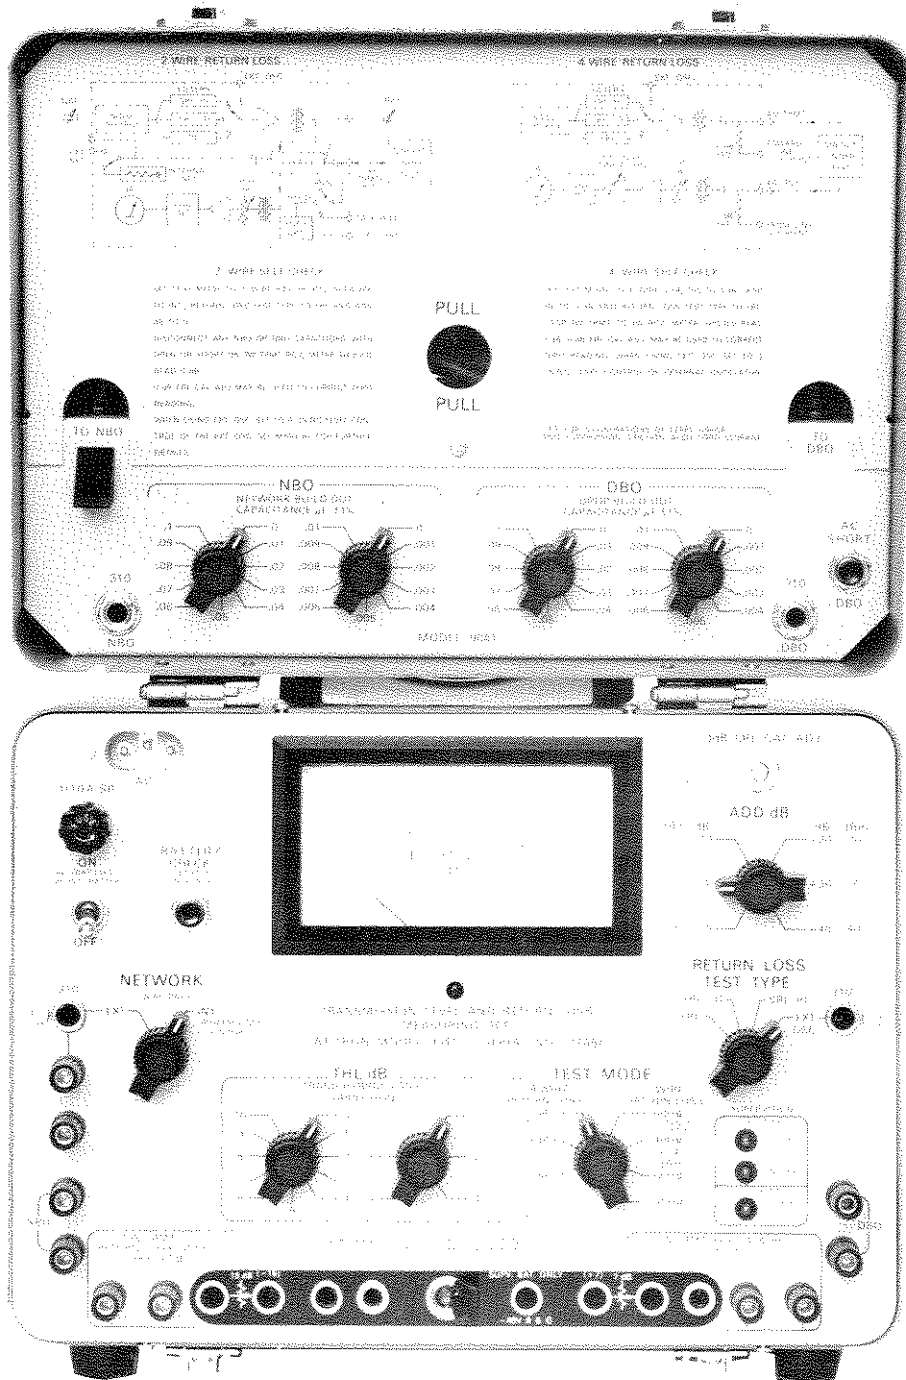

Figure 1-1. WILTRON Model 9041 Transmission Level and Return Loss Measuring Set
1.01 The WILTRON Model 9041 Trans-mission Level and Return Loss Measuring Set (see Figure 1-1) fulfills or exceeds the requirements of Western Electric Specification KS 20501 for Through and Terminal Balance of all classes of telephone offices. The Model 9041 incorporates in one instrument the means to measure transmission level, receive frequency response, echo return loss and singing return loss on 4-wire or 2-wire, 600 ohm or 900 ohm circuits. These features permit measurements of loss and balance that meet Bell System, USITA and CCITT specifications.